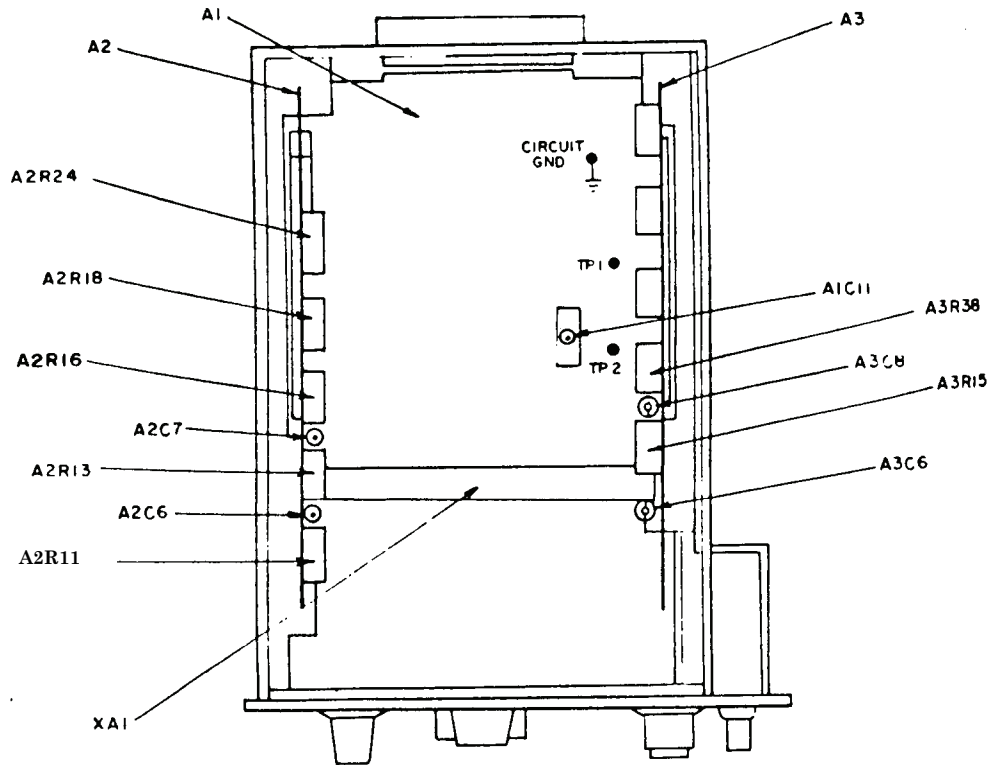

Figure 6. Model 3304A - to view.
- (1) Remove **CKT-GND-to-OUTPUT GND** shorting bar on rear of function generator.
- (2) Connect multimeter to function generator **CHANNEL A OUTPUT**.
- (3) Rotate TI **DC OFFSET FINE** control from fully ccw to fully cw. If multimeter does not indicate between +1 V and -1 V, perform **b** below.
- (4) Adjust TI **DC OFFSET COARSE** control fully cw. Multimeter will indicate greater than +16 V with **DC OFFSET COARSE** to + (positive) and greater than -16 V with **DC OFFSET COARSE** to - (negative).
- (5) Set **DC OFFSET** to - (negative) and repeat (3) and (4) above. Multimeter will indicate reverse polarity.
- (6) Replace shorting bar removed in (1) above.
b. Adjustments. Set function generator **CHANNEL A** function switch to **SQUARE** and adjust A2R24 (fig. 6) until multimeter indicates same voltage reading at both ends of **FINE** control rotation (R).
(2) Connect multimeter positive lead between bottom center contact on **CHANNEL A** slide switch XA1 pin F (fig. 6) and negative lead to circuit ground.
(3) Adjust A2R11 (fig. 6) until top of square wave indicates 10 V on multimeter and bottom of square wave indicates between +1.5 and 2.5 V (R).
(4) Adjust A2R13 (fig. 6) until bottom of square wave indicates 10 V on multimeter and top of square wave indicates between +17.5 and +18.5 V (R).
(5) Adjust A2R16 (fig. 6) until top of square wave indicates 10 V on multimeter and bottom of square wave indicates between +1.5 and 2.5 V (R).
(6) Adjust A2R18 (fig. 6) until bottom of square wave indicates 10 V on multimeter and top of square wave indicates between +17.5 and +18.5 V (R).
(1) While switching **OFFSET SQUARE** slide switch back and forth between + and -, adjust A2C6 (fig. 6) for optimum flat top square wave (R).
(2) While switching **OFFSET SQUARE** slide switch back and forth between + and -, adjust A2C7 (fig. 6) for optimum flat top square wave (R).
(1) Set **RANGE** switch to **X100**.
- (2) Adjust A1C11 (fig. 6) for 1000 Hz on frequency counter (R).
- (3) Set **RANGE** switch to **X10K**.
- (4) Readjust A1C11 (fig. 6) for 100 kHz on frequency counter.
- (5) Repeat (1) through (4) above for best in-tolerance condition.
- (1) Connect jumper between TP2 and CIRCUIT GND (fig. 6).
- (2) Connect multimeter between TI upper center terminal of **SAWTOOTH** slide switch and circuit ground.
- (3) Adjust A3R15 (fig. 6) until multimeter indicates +10 V (R).
- (4) Adjust A3R38 (fig. 6) until multimeter indicates +10 V (R).
- (5) Remove jumper connected in (1) above.
- (2) Adjust function generator **FREQUENCY** dial to **1** and **RANGE** switch to **X.01**. Set **AMPLITUDE** control fully cw.
- (3) Position controls as listed in (a) through (c) below:
- (4) Adjust oscilloscope sensitivity controls for exactly 5 cm p-p display.
- (5) Set TI **RANGE** selector switch and adjust **FREQUENCY** dial from .01 Hz to 10 kHz. If oscilloscope does not display same amplitude as in (4) above ± 0.5 minor division, perform **b** below.
- (6) Set TI **SAWTOOTH** slide switch to - (negative) and repeat technique of (3) through (5) above.
- (7) Remove connection from **CHANNEL A OUTPUT** and connect to **CHANNEL B OUTPUT**.